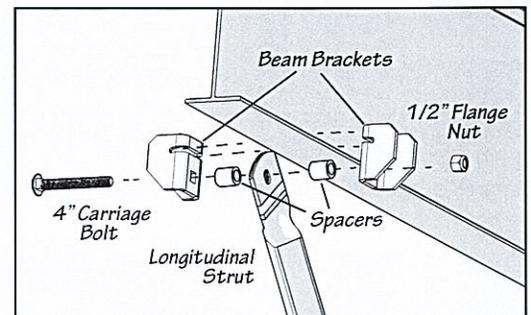

Fig. 3-3
- Extend the top of the longitudinal strut upward and position it between the two beam brackets as shown right in Fig 3-3. **Note:** The fully extended Longitudinal Strut must maintain a minimum of 6" to 8" overlap between inner and outer tubes.